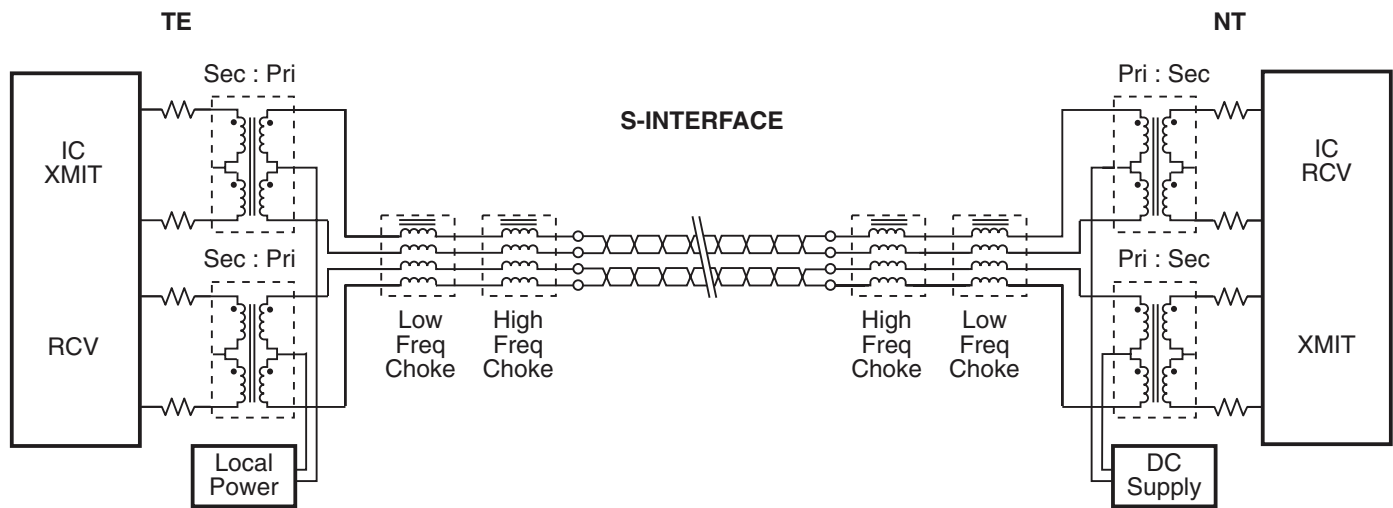

Figure 1. Typical ISDN S-Interface Application Circuit
1. General Information - The S-interface is the standardized four-wire digital telephone access point defined by the CCITT I-series recommendations for the Integrated Services Digital Network. This “basic rate access” accommodates two 64Kbps “B-channels” for information, one 16Kbps “D-channel” intended for signaling and control, and 48 Kbps for framing and other purposes, giving a total rate of 192Kbps. The CCITT physical layer recommends that the user network interface be transformer coupled. A typical application circuit is presented in Figure 1.
and international regulations on EMI. They are designed to be used in conjunction with either Pulse’s ISDN S-Interface or T1/CEPT transformers as shown in Figure 1. A high inductance “low frequency” common mode choke is recommended to improve balance, or to correct inherent unbalances of some ISDN S-Interface circuits.